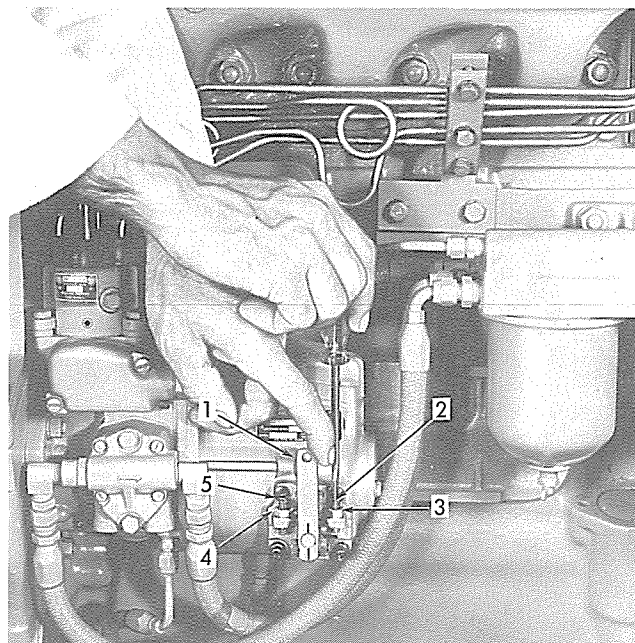

Fig. 32 — Adjusting Typical Governor Speed Control Lever Adjusting Screws (T-27642)
On rubber tired units the engine low and high idle speeds are controlled directly by the governor speed control lever adjusting screws, Fig. 32 (2) (5). Track-type tractor engines are equipped with heavy duty adjusting screws, located on the operating control bracket. When the engine is equipped with heavy duty adjusting screws, the governor speed control low idle adjusting screw, Fig. 32 (5) is set slightly lower than specifications and the high idle adjusting (2) screw is set slightly higher than specifications. This is done in order to make certain the heavy duty adjusting screws act as stop screws.
Adjust the governor speed control lever adjusting screws, Fig. 32 (2) (5), as follows:
2. Disconnect throttle linkage from governor speed control lever (1) so the lever may be moved by hand.